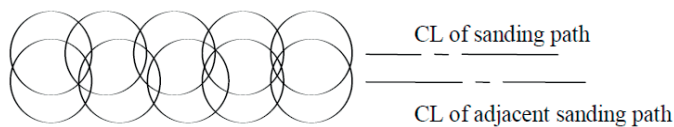
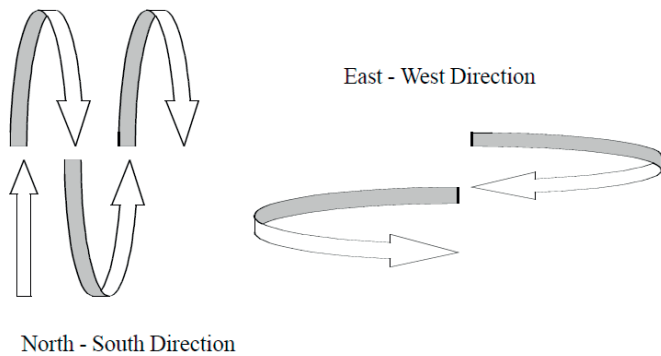

FIGURE B-1
FIGURE B-2
2. Sand the entire top to a uniform finish. Be sure to overlap sanding strokes by at least half the pad diameter and cover the entire surface. See Figure B-1. Care must be taken not to concentrate too heavily over the seam area, as this may develop a different look in this area (especially with particulate colors).
The pattern shown in Figure B-1 should be followed across the sheet in a “North - South, East - West” pattern as shown in Figure B-2. The patterns should be followed three times for each grit level.